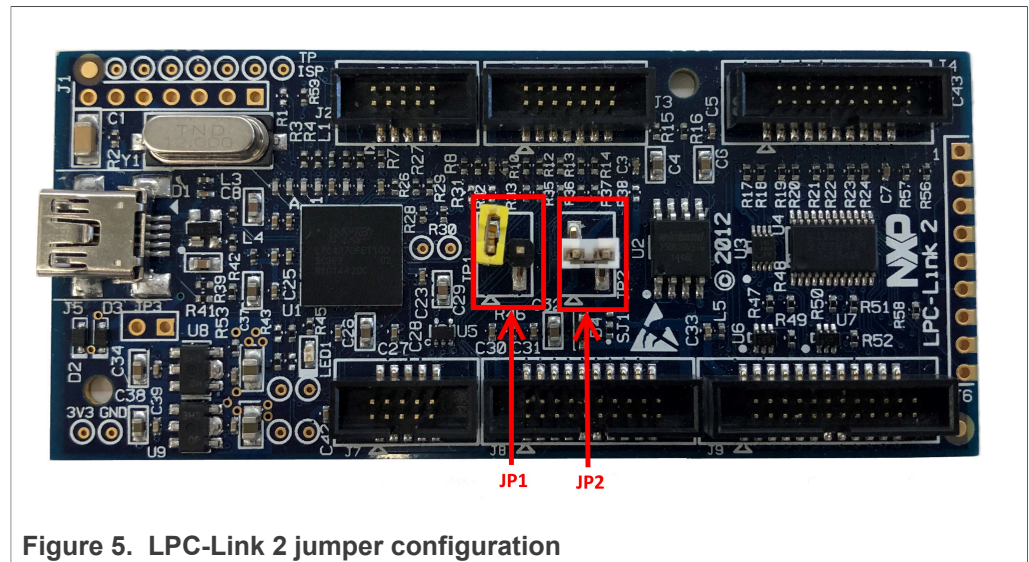

Figure 5. LPC-Link 2 jumper configuration
- 2. Configure LPC-Link 2 board jumpers as shown in Figure 5: